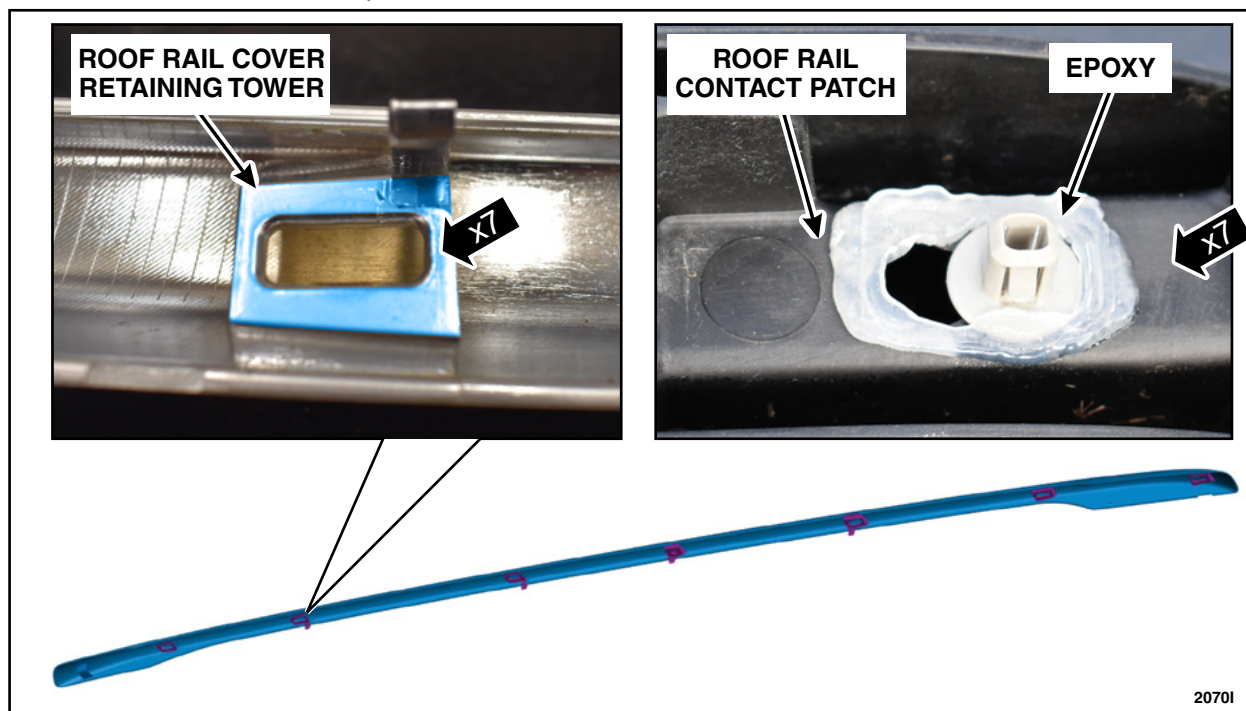

FIGURE 4
4. If Technical Service bulletin (TSB) 19-2364 or 20-2154 was performed, evidence of RTV or epoxy will be seen on the roof rack cover and or roof rail contact patch. Inspect the roof rack cover retaining tower and roof rail contact patch for signs of RTV or epoxy adhesive. See Figure 4. Was evidence of RTV or epoxy found?